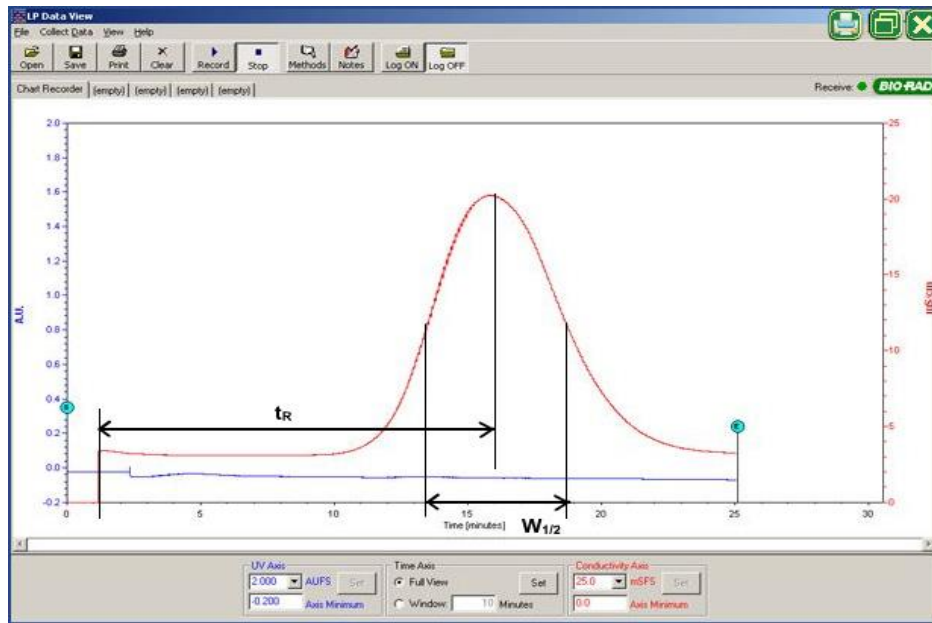

Figure 5: Chromatogram Example for Calculating HETP
- 9.5. Figure 5: Chromatogram example for calculating HETP